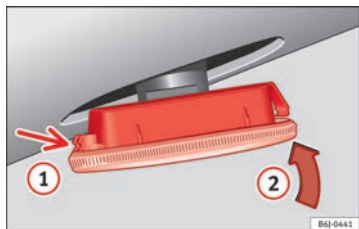

Fig. 184 Turn signals.
- First fit the turn signal in the opening in the chassis, fastening the tabs ① ⇒ Fig. 184, and then fit in the bulb as shown by the arrow ② ⇒ Fig. 184.